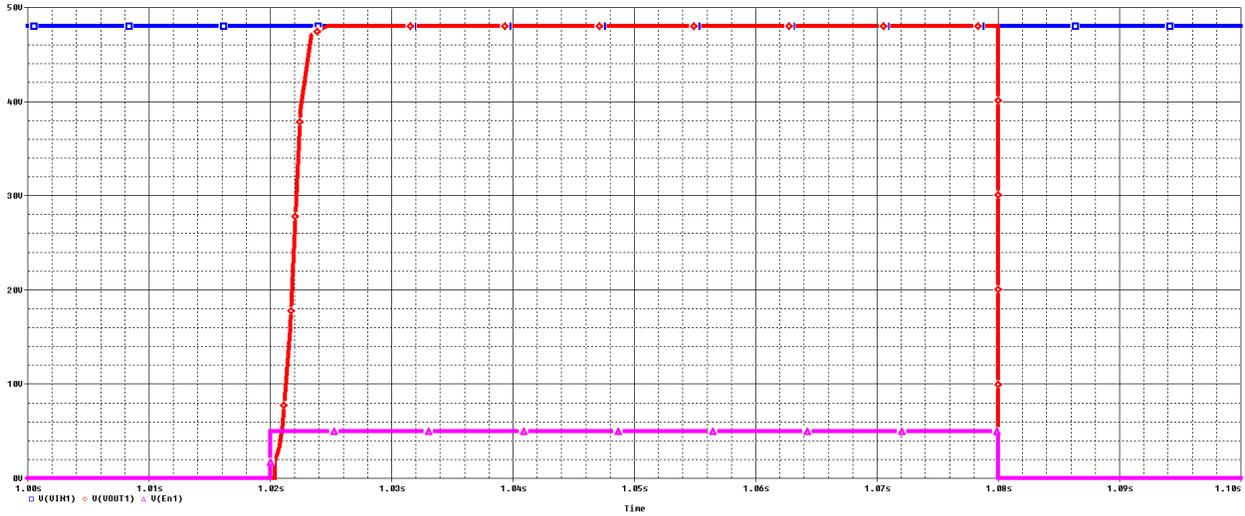

Figure 3. Turning on Output with Enable
- The separate enables control whether each of the associated outputs are on (e.g. EN1 controls OUT1). The enables are pulled up internally but can also be pulled up to 5 V externally, as shown in Figure 3 below.